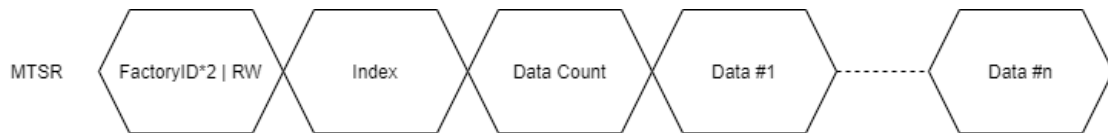
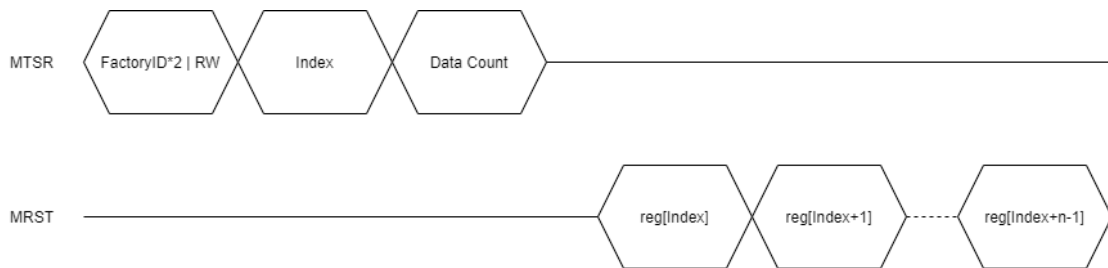

Figure G-3. Writing Register Message
Figure G-4. Reading Register Message
- FSS100 can be accessed via UART-8N1, using a 115200 baud rate. Every block in Figure G-3 and Figure G-4 represents a byte.
- The FactoryID is 0x57. To start a message, the first byte, HEAD, must be FactoryID left shifting 1 bit. The LSB of HEAD represents read(1) message or write(0) message.